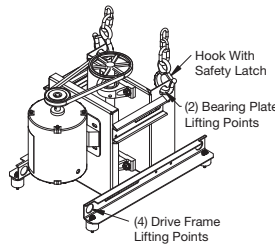

Figure 3 — Lifting Lugs on Drive Frame
- Use lifting lugs on the drive frame to lift and place the unit on top of curb. Refer to Figure 3.